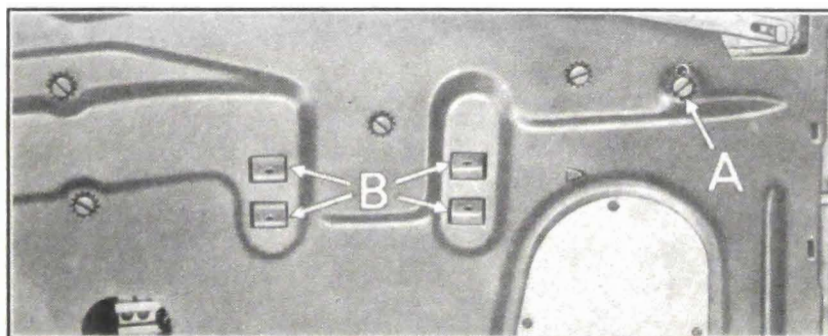

Fig. 1-105. How window regulator cam at "A" may be adjusted, also the door arm rest at "B"
- Another adjustment on the doors of some body styles that service men should be familiar with is the window regulator cam, shown in Fig. 1-105. The screw hole for this assembly in the door inner panel nearest the door lock pillar marked "A" is elongated vertically and the cam screw in this hole is normally moved up against the top of this elongation. In cases where the window glass has a tendency to leave the door center division channel when raised, first check the vertical center division channel for correct alignment, and next examine the cam screw and elongated hole as mentioned for correct adjustment. If no vertical elongation is found, try elongating the present hole to $\frac{1}{2}$ " and move the cam up to its highest limit.